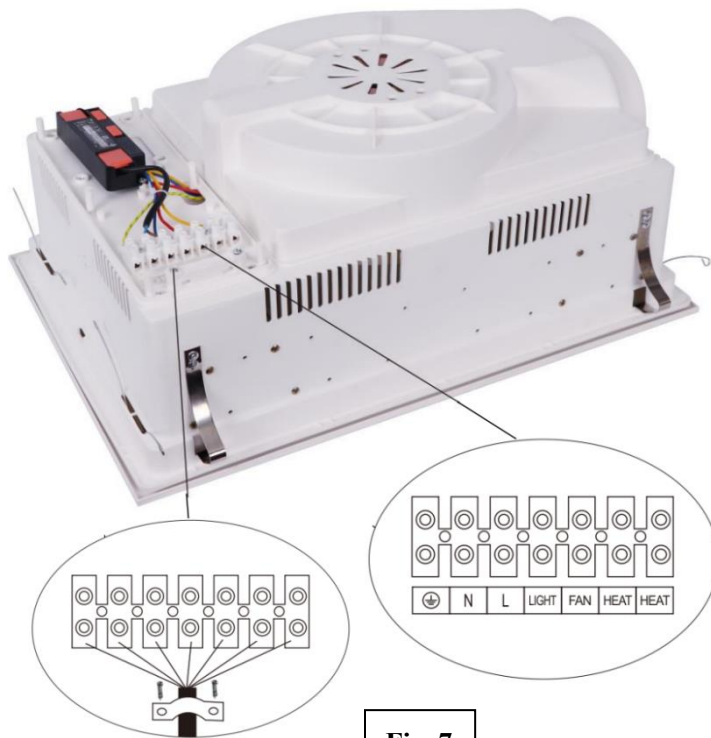
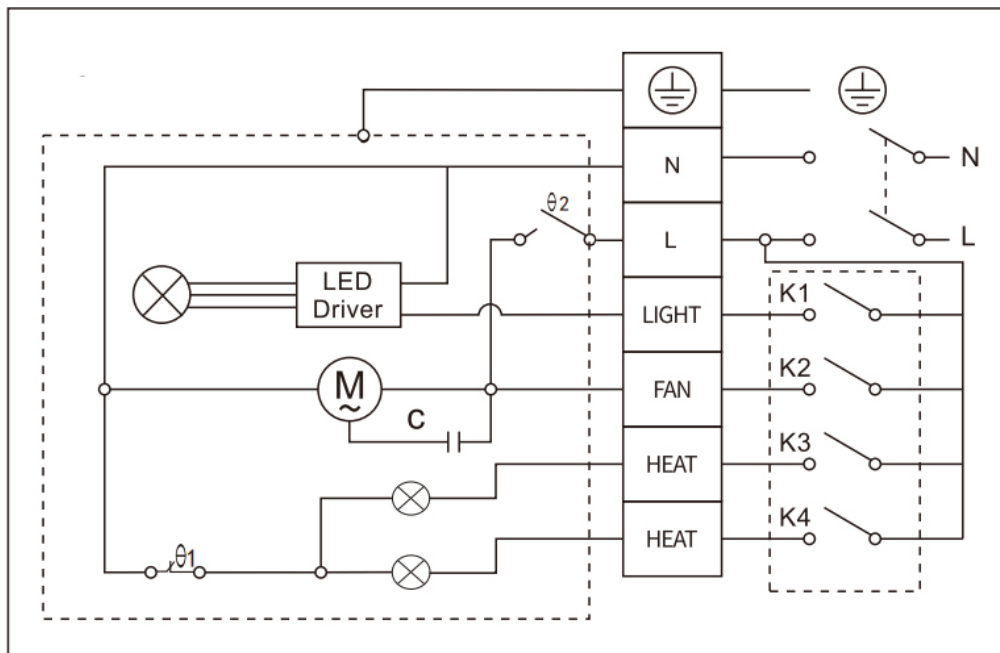

Fig. 7
Fig. 8
10. Connect the supply wires to the terminal block shown in Fig. 7 in accordance with the wiring diagram shown in Fig. 8
11. Make the wiring connection from the terminal block shown in Fig. 7 to the supplied Wall Switch (H) using the wiring diagram shown in Fig. 8. Make sure all cables are securely connected and once confirmed, refit the terminal box cover to the THERMALITE PRO unit.